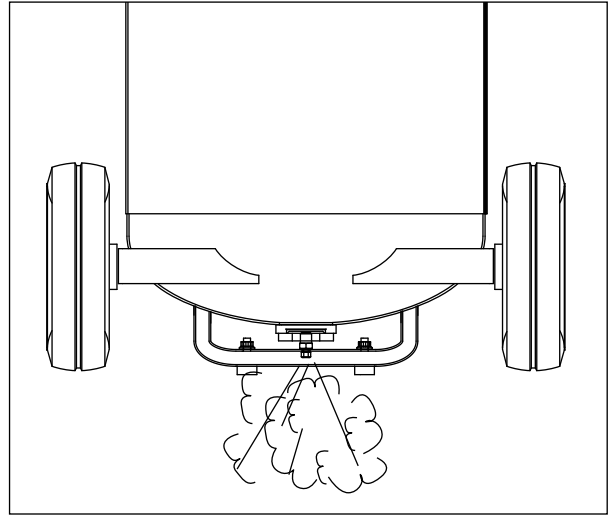

Figure 6
2. Open the bottom tank drain valve (see Figure 6). Turn outlet valve to open air flow.
| Drain Tank (see Figure 6) | ● | | |